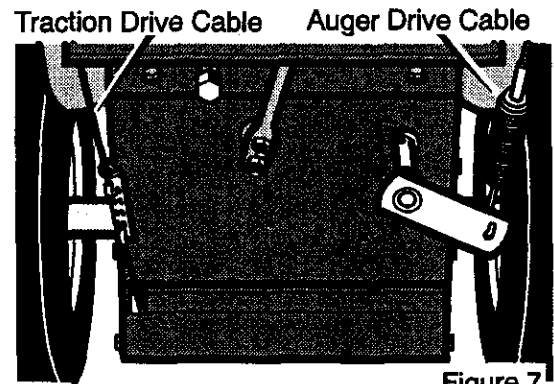

Figure 7
**NOTE:** If the cables have become disconnected, connect cables as shown in Figure 7.